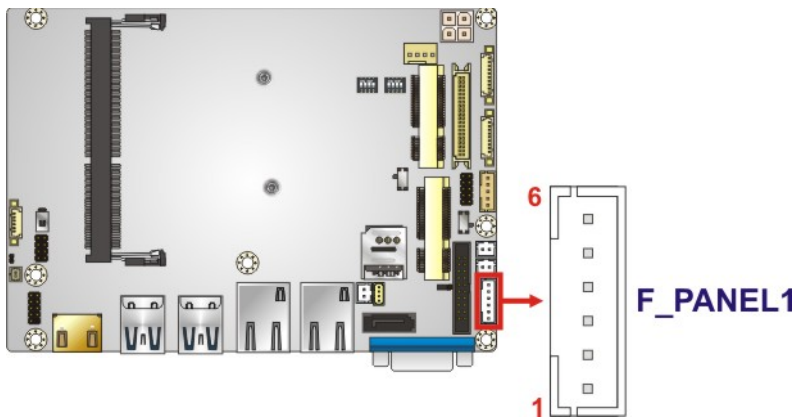

Figure 3-13: Power and HDD LED Connector Location
- CN Location:** See Figure 3-13